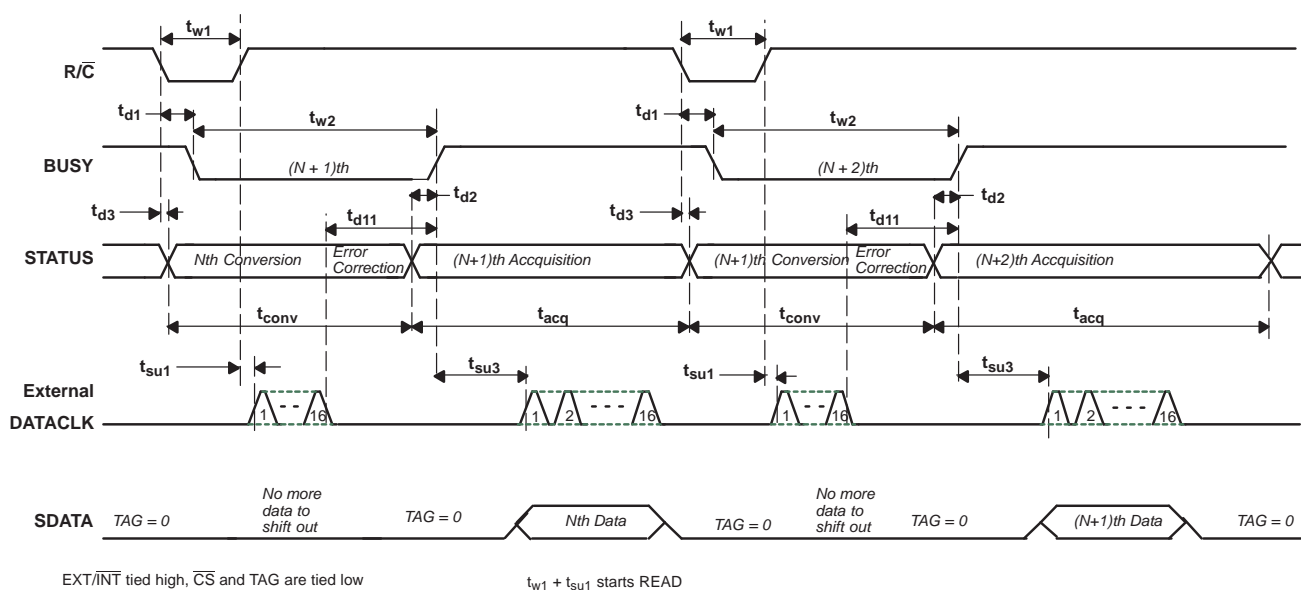
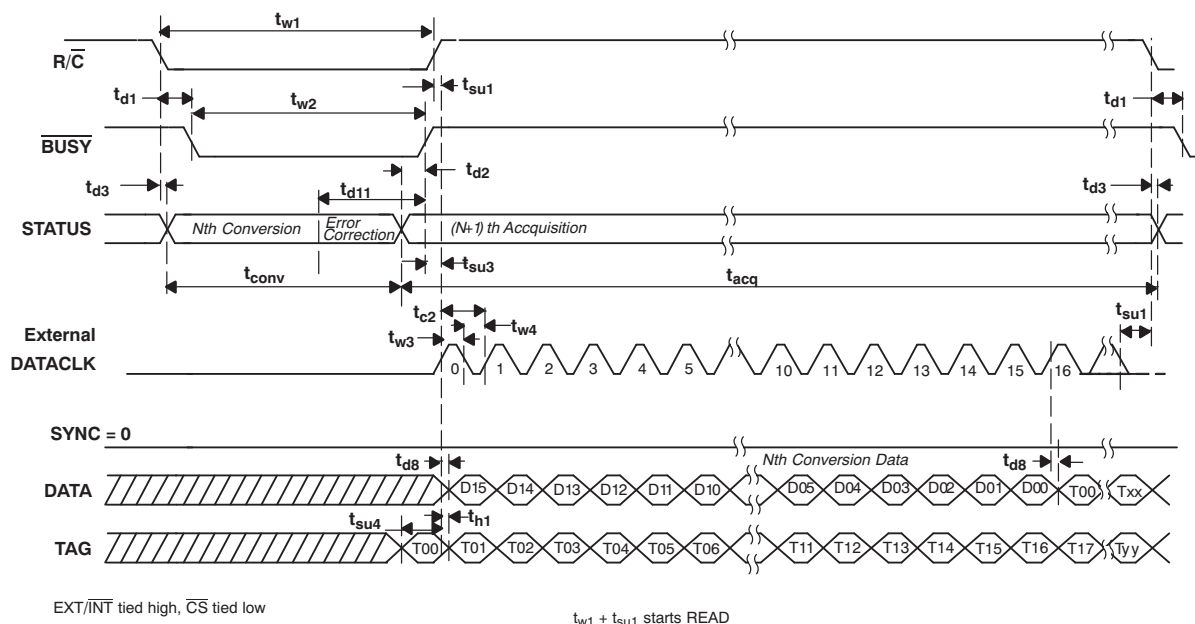
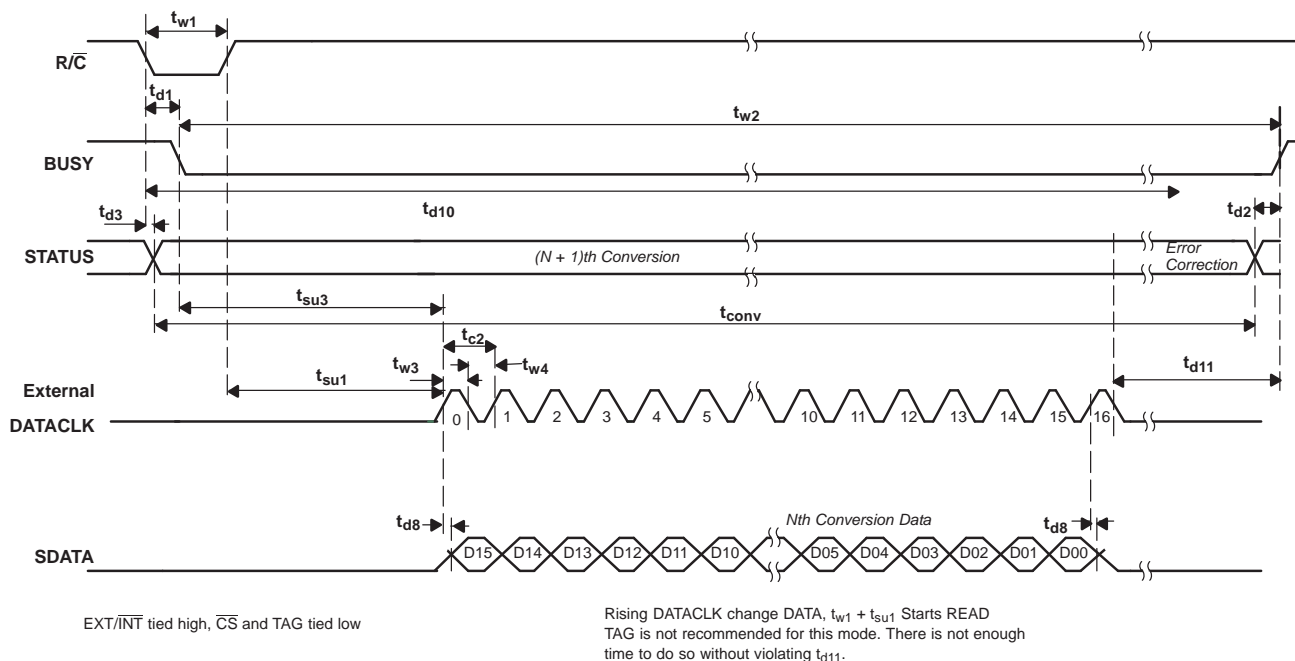

Figure 34. Basic Conversion Timing: External DATACLK
Figure 35. Read After Conversion (Discontinuous External DATACLK)
Figure 36. Read During Conversion (Discontinuous External DATACLK)
(1) See Figure 34, Figure 35, and Figure 36 for constraints on data valid from conversion *N*–1.
After conversion N is completed and the output registers have been updated, $\overline{\text{BUSY}}$ (pin 24) goes high. With $\overline{\text{CS}}$ low and $\text{R}/\overline{\text{C}}$ high, valid data from conversion N are output on SDATA (pin 19) synchronized to the external data clock input on DATACLK (pin 18). The MSB is valid on the first falling edge and the second rising edge of the external data clock. The LSB is valid on the 16th falling edge and 17th rising edge of the data clock. TAG (pin 20) inputs a bit of data for every external clock pulse. The first bit input on TAG is valid on SDATA on the 17th falling edge and the 18th rising edge of DATACLK ; the second input bit is valid on the 18th falling edge and the 19th rising edge, etc. With a continuous data clock, TAG data is output on SDATA until the internal output registers are updated with the results from the next conversion. Refer to Table 6 and Figure 35 for more information.
The switching noise of the asynchronous data clock can cause digital feedthrough, degrading converter performance. Refer to Table 6 and Figure 36 for more information.
A falling-edge-triggered transfer would initiate an SPI transfer after the falling edge of $\overline{\text{BUSY}}$, providing the host controller with the previous conversion results, while the current conversion cycle is underway. The timing for this type of interface is described in detail in Figure 36. Care must be taken to ensure the entire 16-bit conversion result is retrieved from the ADS8517 before $\overline{\text{BUSY}}$ returns high to avoid the potential corruption of the current conversion cycle.
A rising-edge-triggered transfer is the preferred method of obtaining the conversion results. This timing is depicted in Figure 35. This method of obtaining data ensures that SCLK is static during the conversion cycle and provides the host processor with current cycle conversion results.